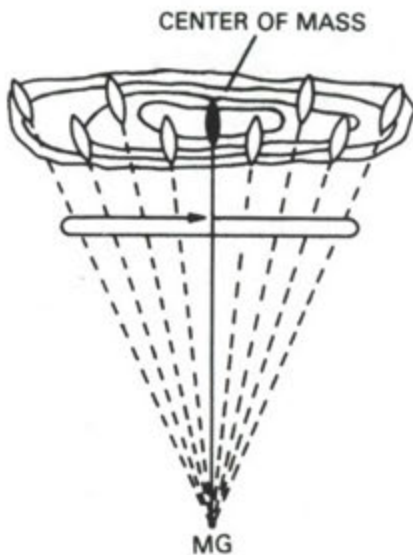

Figure 5.
a. To engage an area target (figure 5) -
- (1) Determine width and depth of the target.
- (2) Fire single shots until you hit the center of mass of the target area.
- (3) Use traversing and searching fire to cover the target area.